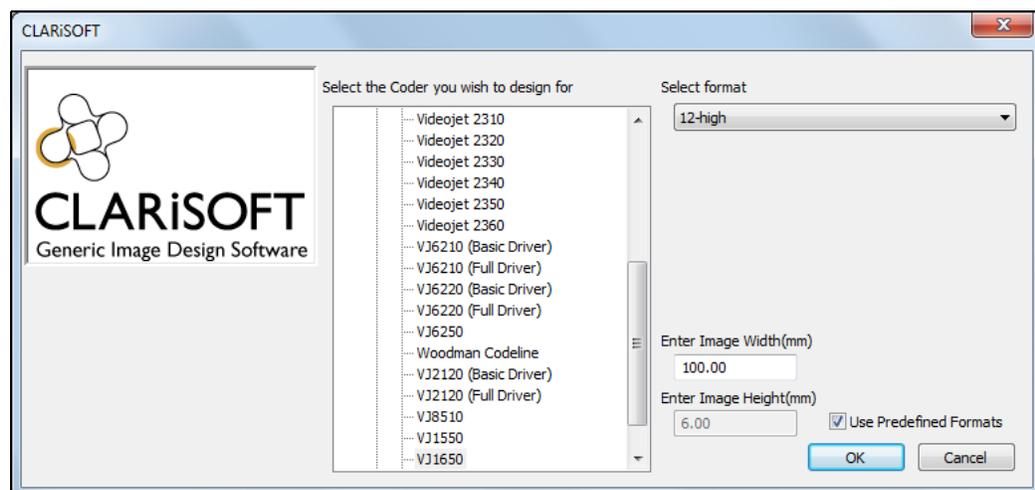

Figure 8-1: Select the Coder
- 2 Click *File > New* to create a new image. Select the coder and image / size options as shown in Figure 8-1.